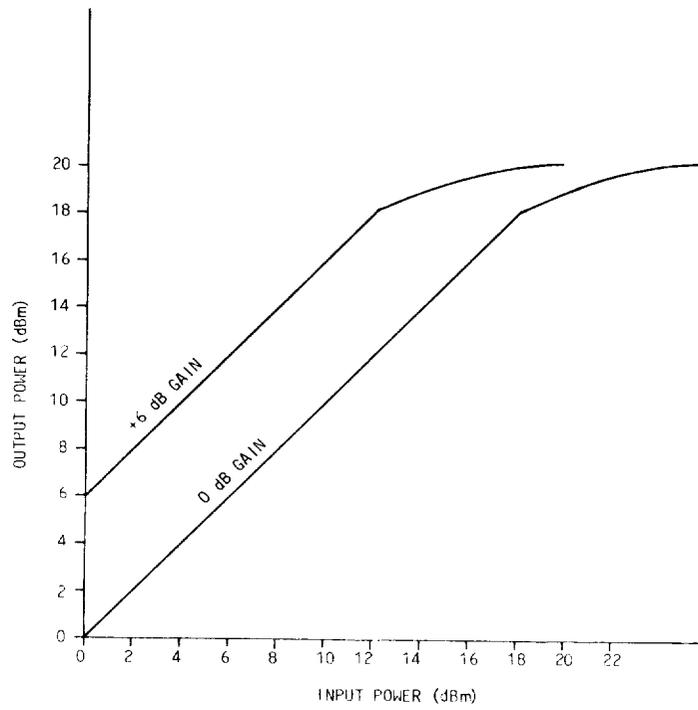

Fig. 13—Output Power Capability of the J99343SC and SD Units
4.05 Figure 13 shows the output power capability of the 4-4 wire intermediate/ terminal repeater. The output power is determined by input power and repeater gain, as shown by the +6 dB gain line in the figure. Power limiting occurs in this unit at about 18.0 dBm.